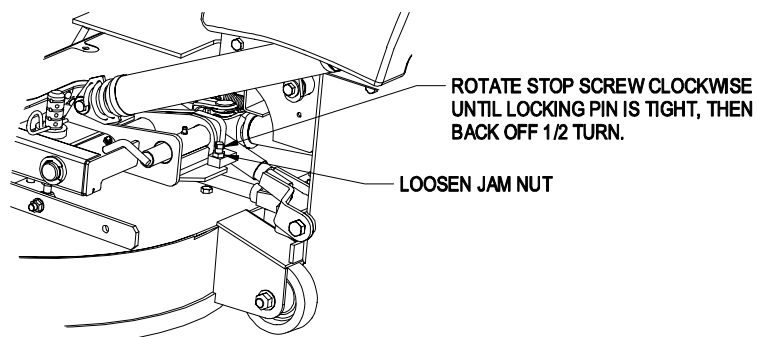

FIGURE 10
- b) Loosen the jam nut and turn the stop screw clockwise until the locking pins is tight and cannot be rotated by hand. See Figure 10.